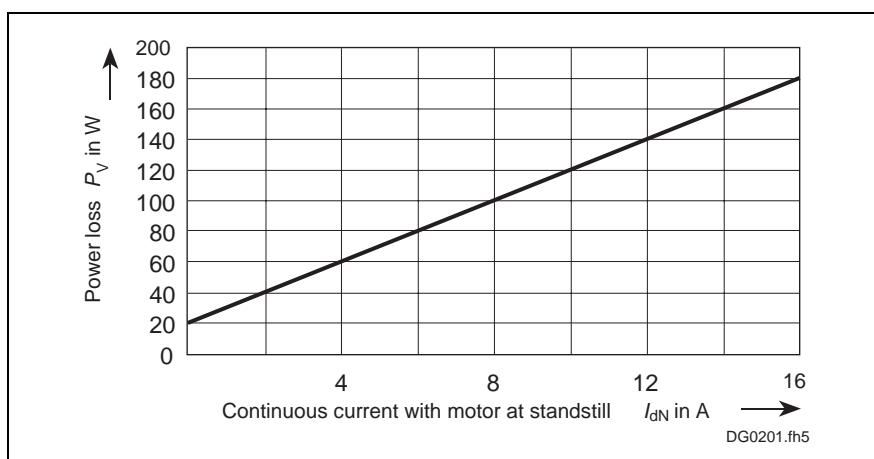

Fig. 10-1: Determining the power dissipated in the control cabinet
- ⇒ Using the  $I_{dN}$  value of the motor selected, find the value in the diagram in Fig. 10-1 for the current-dependent power dissipation  $P_{V, DKC}$ .